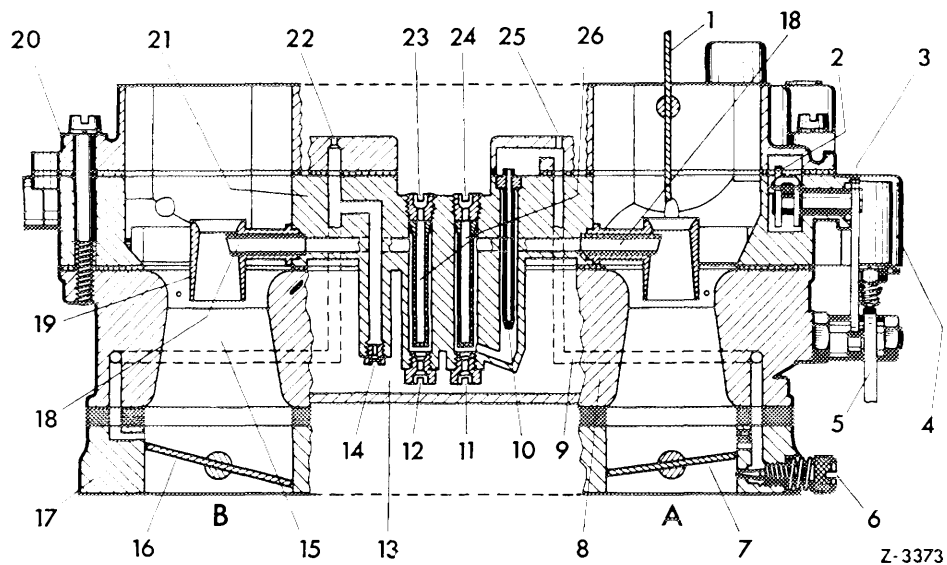

Fig. 07—1/4
The accelerator pump is designed as a piston pump and is effective in Stage I only. When the pump lever (2) is actuated, the pump piston (38) forces fuel via duct (54) through the calibrated injection pipe (28) into the mixing chamber (Fig. 07—1/5).